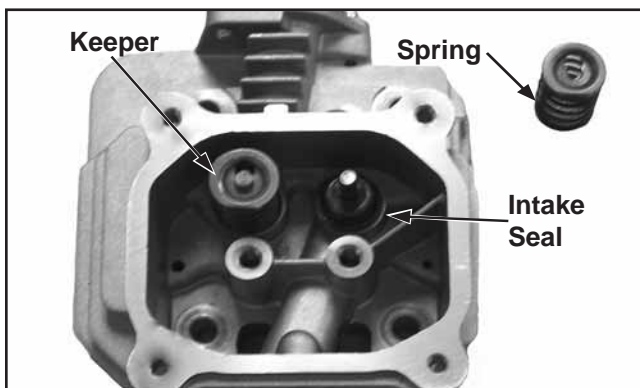

Figure 10-16. Installing Valve Assembly.
2. Install the intake valve seal onto the intake valve. Next, slide the valve springs onto both valves and lock them in place with the valve spring keepers. See Figure 10-16.